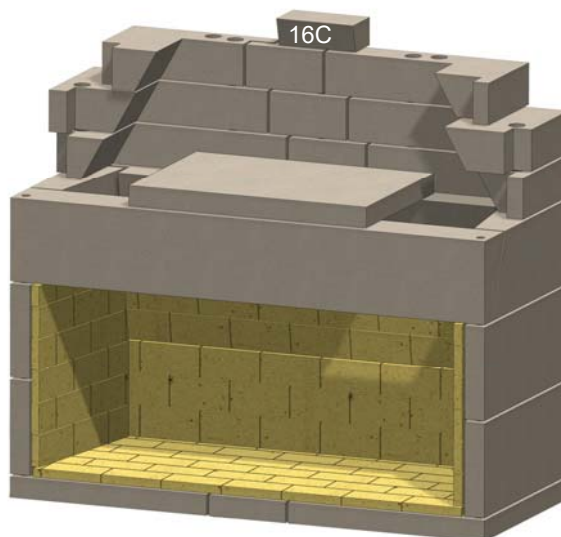

Figure 22. Rear Throat Cap Extension
M. Install the rear throat cap extension (16C). See Figure 22.